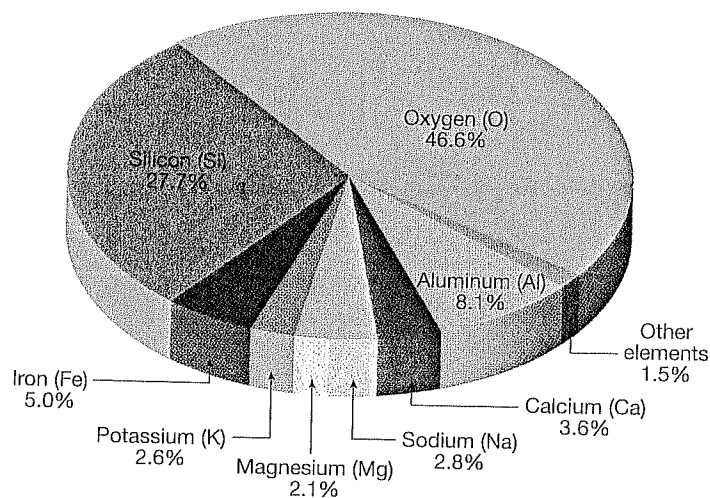

FIGURE 2.21 Relative abundance of the eight most common elements in the continental crust.
It is worth noting that *only eight elements* make up the vast majority of the rock-forming minerals and represent more than 98 percent (by weight) of the continental crust (**Figure 2.21**). These elements, in order of abundance from most to least, are oxygen (O), silicon (Si), aluminum (Al), iron (Fe), calcium (Ca), sodium (Na), potassium (K), and magnesium (Mg). As shown in Figure 2.21, silicon and oxygen are by far the most common